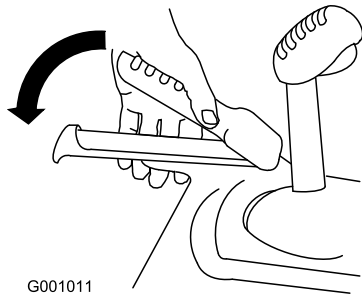

Figure 35
1. To engage the traction drive, squeeze the left hand (traction) lever to the hand-grip (Figure 35).